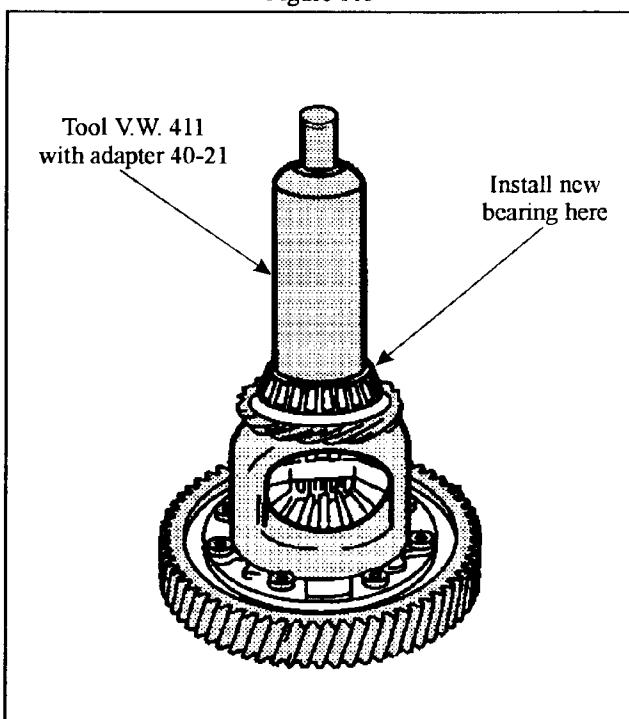

Figure 114
4. Coat the inside and outside of the plastic differential thrust washer with a small amount of gear oil and install into the differential (See Figure 114).
5. Insert the side pinion gears into the differential, one at a time, then coat the pinion shaft with a small amount of gear oil and carefully work the pinion shaft through the differential carrier and the gears with a twisting motion (See Figure 114).